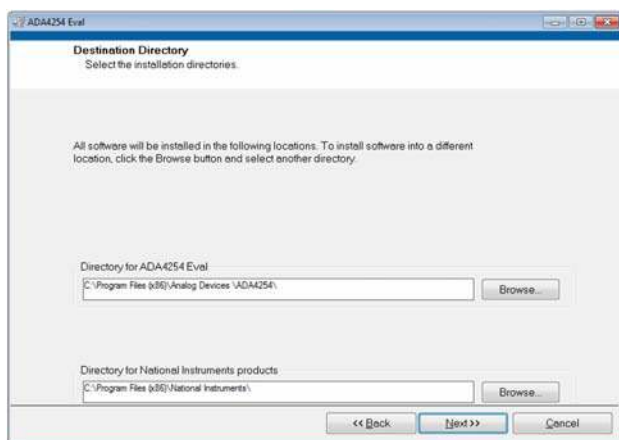

Figure 8. Destination Directory Window
4. Choose the installation directory in the **Directory for ADA4254 Eval** field and click **Next >>** (see Figure 8). The default installation directory location is **C:\Program Files (x86)\Analog Devices\ADA4254**.